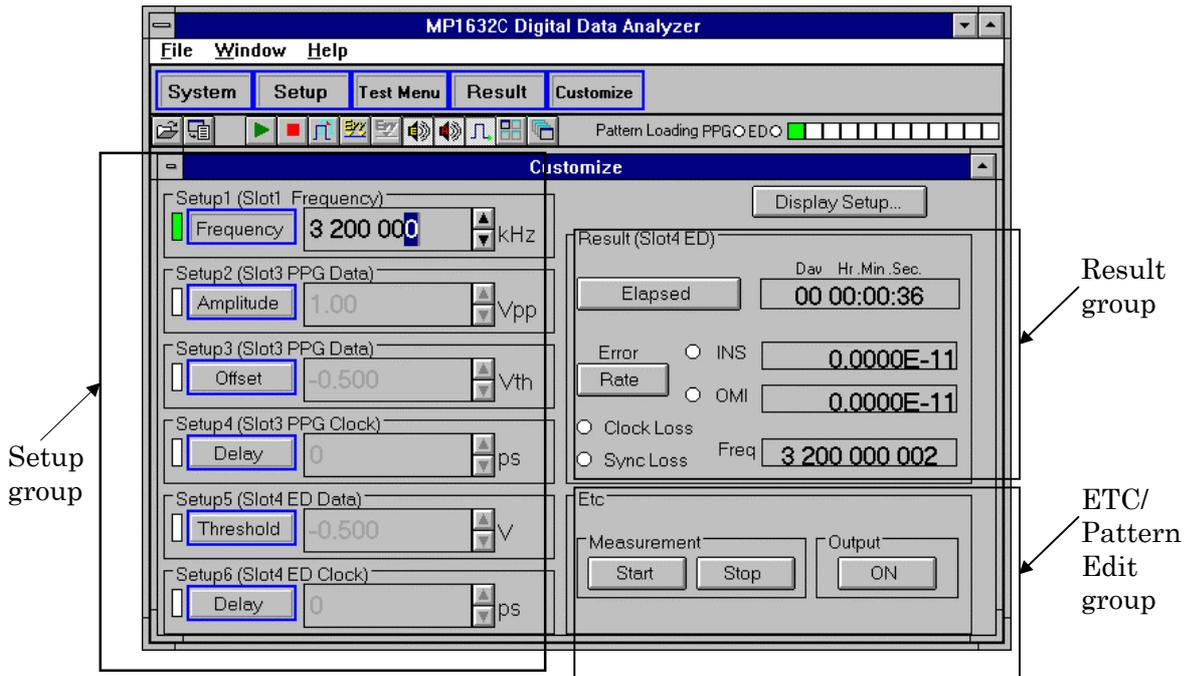

Fig. 5-51 Customize subwindow
1. Press the button shown at the left of the parameter box (Frequency, Amplitude, etc at Fig.5-51) and the LED at the left of the button will turn on to indicate that the value is ready to be input.